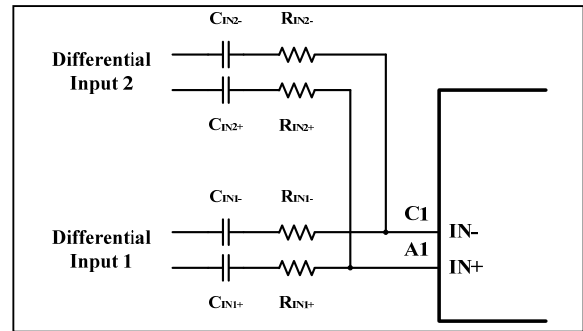

Figure 12 Summing Two Differential Inputs
Two extra resistors are needed for summing differential signals (a total of 5 components). The gain for each input source can be set independently (see Equations (4) and (5) and Figure 12).